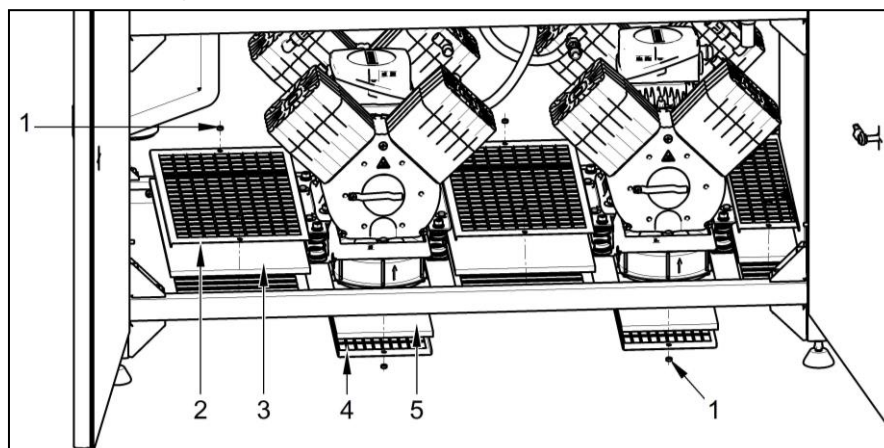
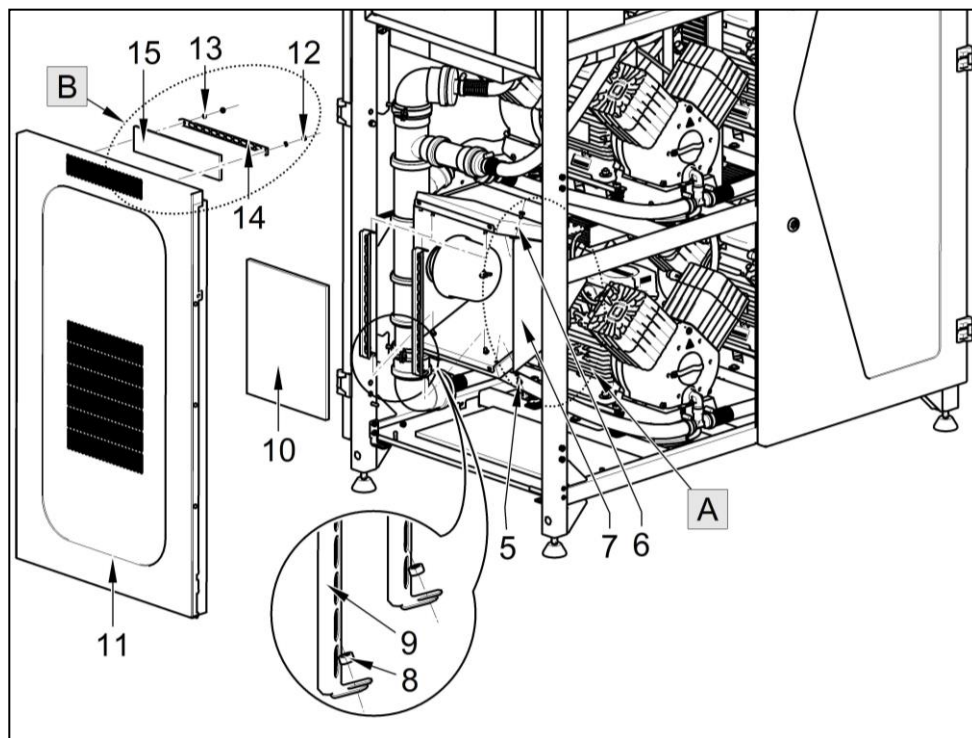

Fig.20
Fig. 21
(Fig.20, Fig. 21)
- Remove the nuts (1) and covers (4) on the lower part of the enclosure beneath the aggregates two times and remove the filters (5).
- Remove the nuts (1) and covers (2) inside the enclosure three times and remove the filters (3).
- In Point A, remove the foam, remove the 4 screws (5), washers (6) and remove the suction filter cover (7). – (Fig. 21)
- Remove the 2 nuts (8) on the filter bracket (9) and remove the filter (10).
- In Point B (on the sides (11)), remove the 2 nuts (12), washers (13), release the filter bracket (14) and remove the filter (15).